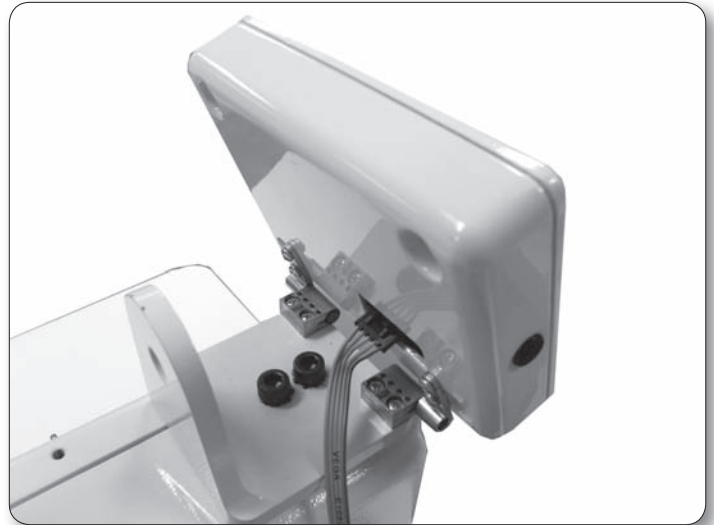

Figure 6
The color touch-screen comes pre-installed on its mounting bracket and should have one end of the D cable attached to the back of the touch-screen (see **Figure 6**).
4. Use a 5 mm Allen wrench to insert the two long bolts through the holes of the bracket and into the machine (**Figure 6**). Tighten in place.